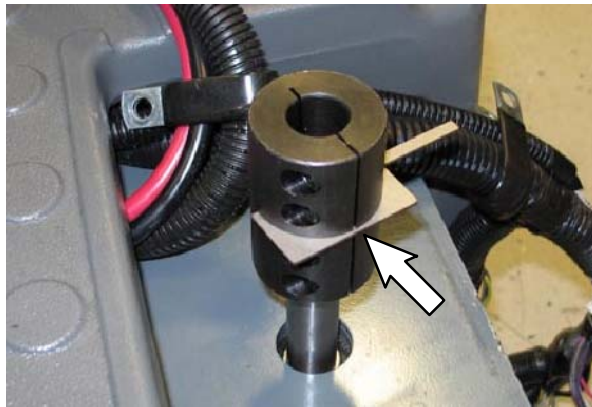

FIG. 37
8. Use an alcohol wipe (6) to clean the bore of the new steering coupling (3) and the shaft of the drive unit.
9. Place the steering coupling (3) onto the front wheel assembly shaft and insert the shim (2) into the steering coupling. (Fig. 37)
10. Use the provided socket (4) to tighten the two lower socket screws (17 Nm / 150 in lbs) to secure the steering coupling (3) to the front wheel assembly. (Fig. 37)
11. Remove the shim (2) from the steering coupling (3). (Fig. 37)